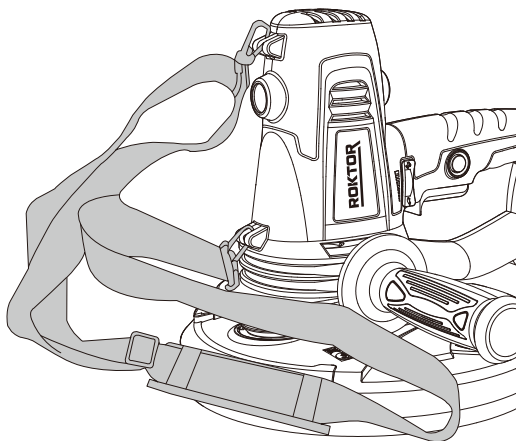

Figure 5
5. ATTACHING THE SHOULDER STRAP (SEE FIG. 5)